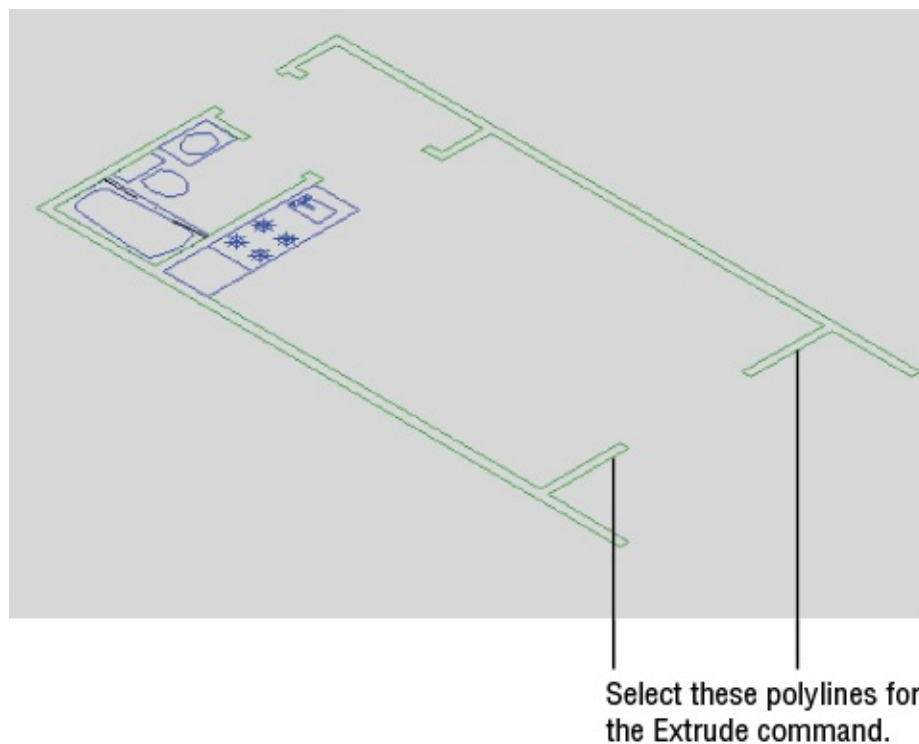

FIGURE 20.21 A 3D view of the unit plan
Your view now looks as if you're standing above and to the left of your drawing rather than directly above it (see Figure 20.21). The UCS icon helps you to get a sense of your new orientation.
4. Select the wall outlines shown in Figure 20.21, and then press ↵.